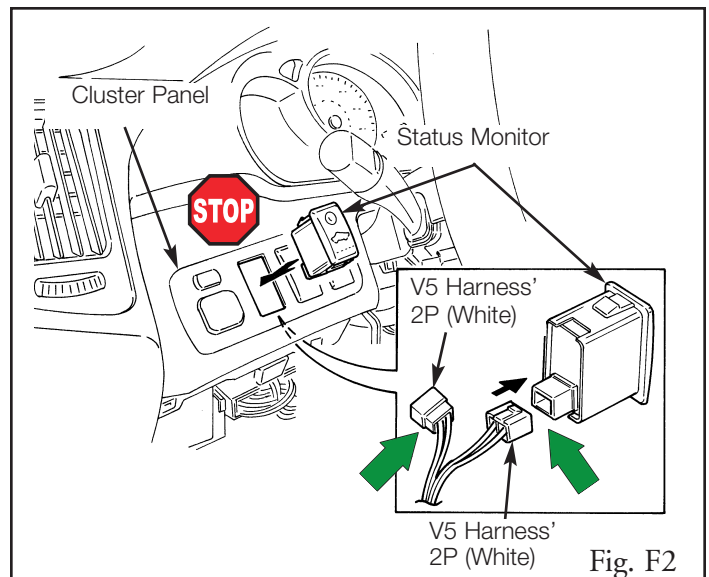

Fig. F2
2. Plug in the V5 harness' white 2P connector to the Status Monitor. (Fig. F2)
3. Insert the Status Monitor into the knockout opening of the cluster panel. (Fig. F2)